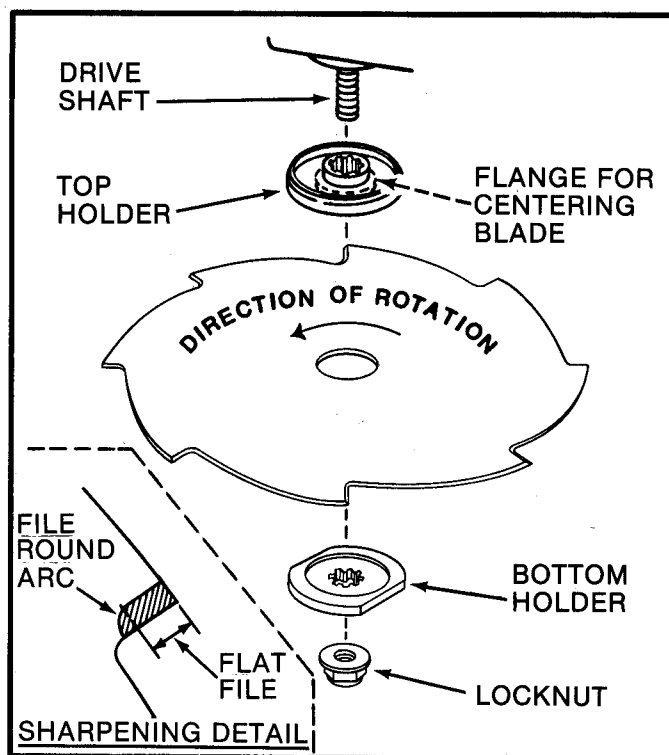

FIG. 7 - CUTTING BLADE INSTALLATION
1. Position the centering flange of the top holder into hole of the blade. Make sure cutting edge is positioned as shown in inset in figure 7.
**CAUTION:** Never use blades other than genuine SNAPPER replacement blades. Differences such as mounting hole diameter and material hardness could be dangerous. Also, never attempt to install a blade with the trimmer head installed. Use the specific retaining hardware in sequence shown in figure 7.
**BLADE SHARPENING PROCEDURE:** Check blade for nicks and cracks and discard if any are found! Sharpen blade cutting edges as shown in inset of figure 7. Be sure to maintain radius at base of tooth to minimize chances of cracks developing in this particular area of the blade.